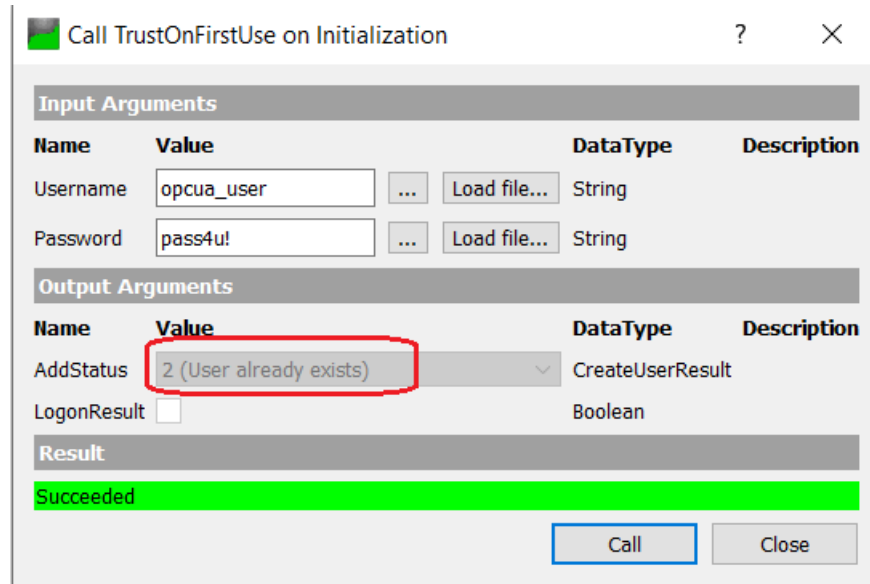

Fig. 4.8: . .
- If the *AddStatus* is not as expected (see example in Fig. 4.8), most likely the *OPC UA Server* and the *Configurator* will have to be uninstalled, and the user *opcua_user* deleted from the system, before the complete process is repeated. Chapter *Uninstalling Existing OPC UA Server* describes this procedure.